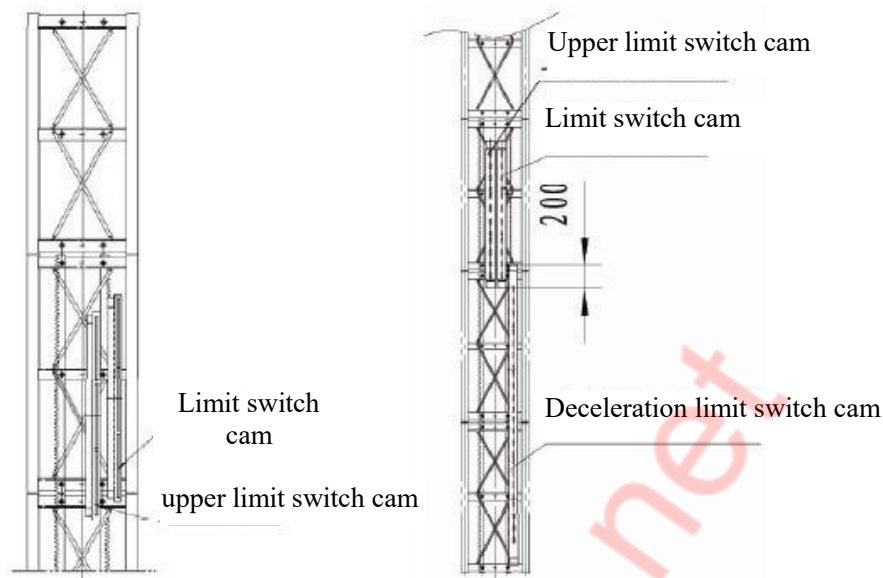

Figure 1.7-1 Erection Diagram for Limit cam
After the height increase of mast is completed, install the upper limit switch cam and limit switch cam (as indicated in Figure 1.7-1). The erection position of limit switch cam shall meet the following requirements:
- (1) If the rated speed is lower than or equal to 0.85m/s, the erection position of limit switch cam shall ensure that, after the limit switch is activated; there is at least 1.8m safety distance for cage roof. In addition, as for any component or equipment in cage which is higher than the cage, there shall be at least 0.3m safety distance above such component or equipment;
- (2) If the rated speed is higher than 0.85m/s, the erection position of limit switch cam shall ensure that, after the limit switch is activated, there is at least $(1.8+0.1V^2)$ m safety distance for cage roof, where V means the rated speed. In addition, as for any component or equipment in cage which is higher than the cage, there shall be at least 0.3m safety distance above such component or equipment;
- (3) The erection position of upper limit switch cam shall meet the following requirements: In normal working state, after the upper limit switch touches the upper limit cam, the distance between the arm of limit switch and the lower end of limit switch cam is 150mm;
- (4) In addition to upper limit switch cam and limit switch cam, the variable-frequency speed-regulation construction hoist shall also be equipped with deceleration limit cam, of which the erection position shall be as follows: the upper end face of deceleration limit cam is about 200mm higher than the lower end face of upper limit cam, as indicated in Figure 1.7-1.